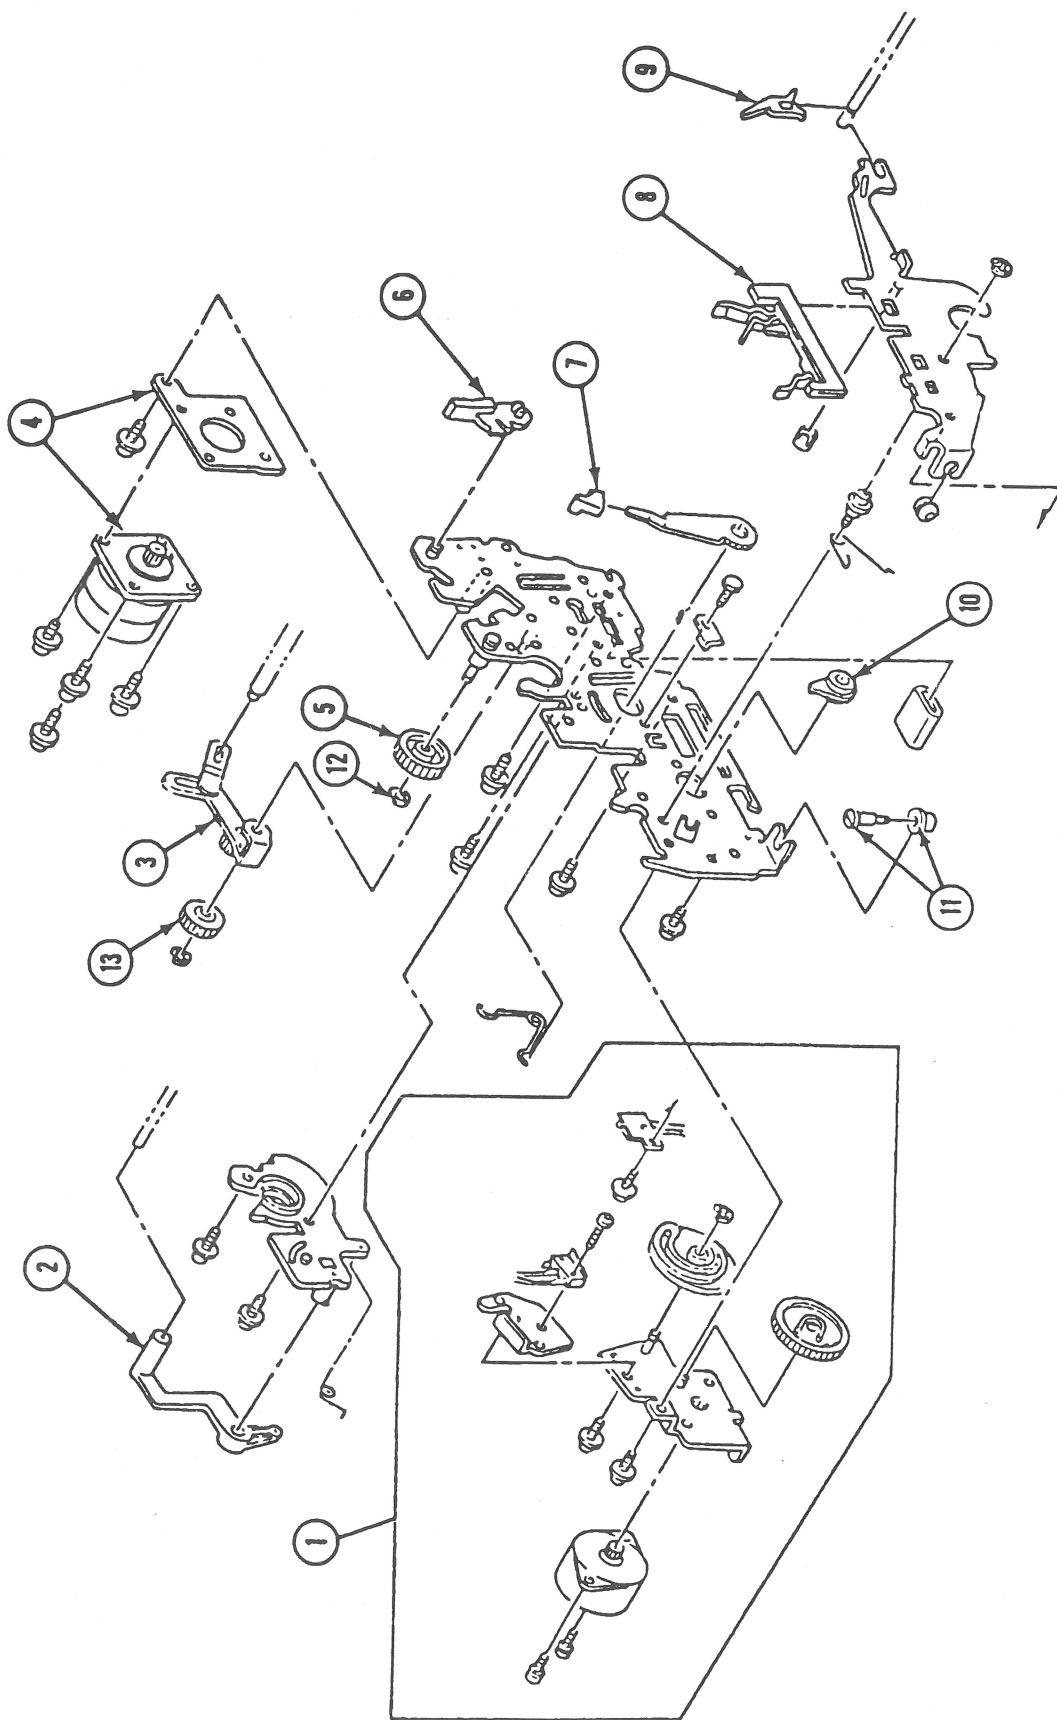

FIGURE 7
□ LEFT SIDE FRAME ASSEMBLY (Figure 7)